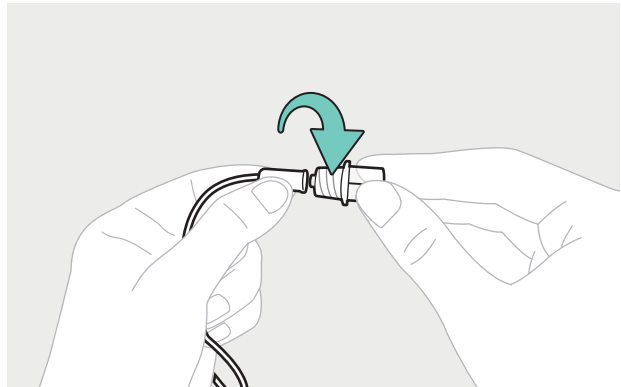

Figure 59
- Connect the iLet Connect Luer adapter and insulin infusion set flexible tubing by twisting one into the other until tight (see Figure 59). Make sure this connection is straight and tight. If this connection is not tight, insulin can leak out causing hyperglycemia, or air can get it in and push insulin into your body, causing hypoglycemia. Do not connect the iLet Connect to the insulin cartridge yet.